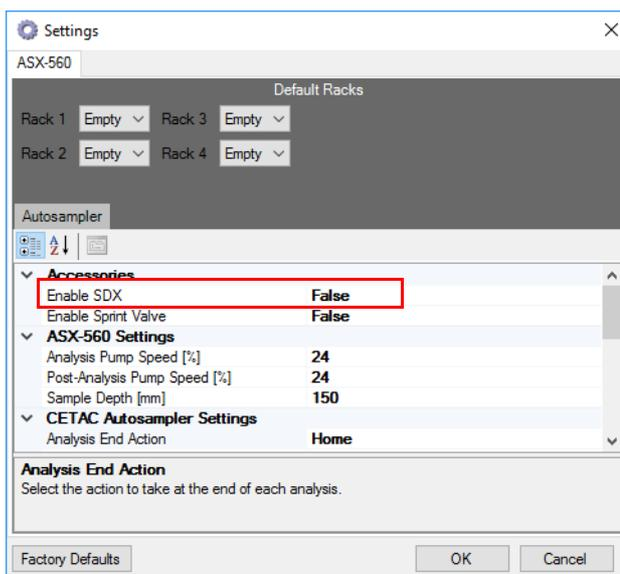

Figure 14-41. Settings dialog for the ASX-560 autosampler
4. Click **Edit settings** to open the **Settings** dialog, see Figure 14-41.